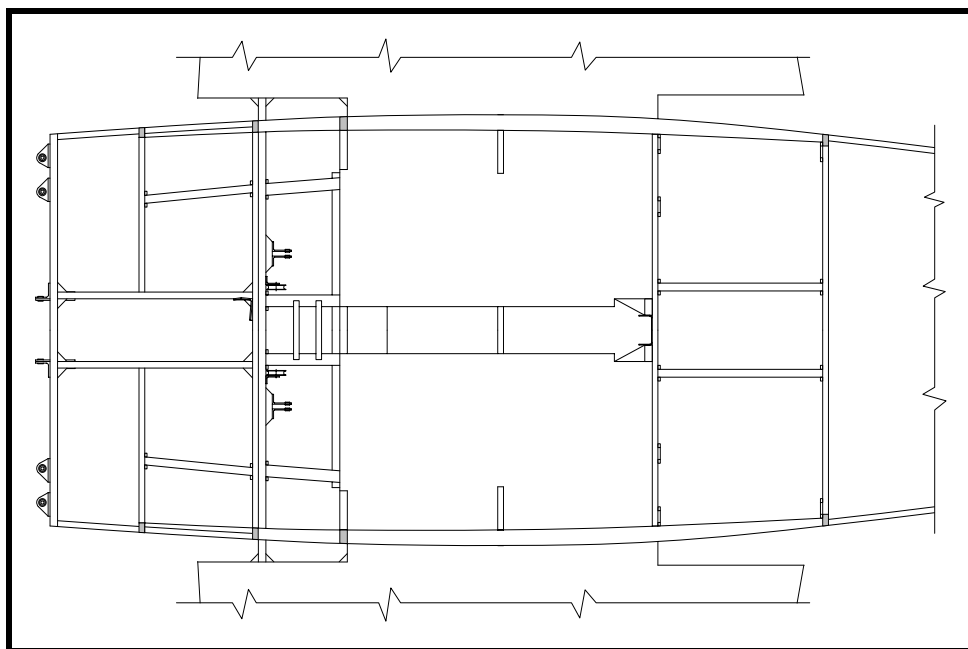

Figure 15
- ❑ Install the center luggage compartment floor supports. See Figure 15.